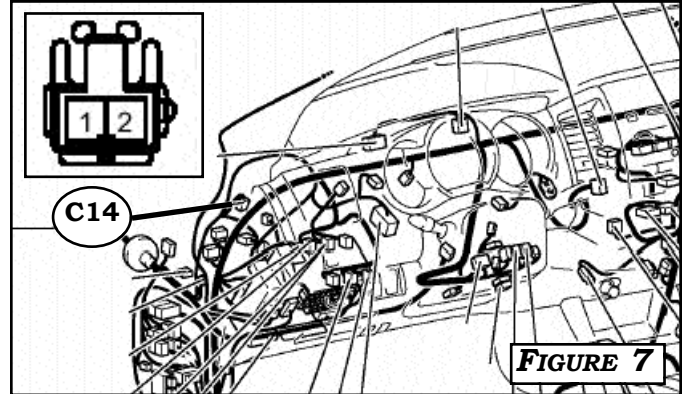

FIGURE 7
6) FOR MANUAL TRANSMISSION TACOMA ONLY: LOCATE CONNECTOR **C14** ABOVE CLUTCH PEDAL, **FIGURE 7**, AND ATTACH **RED** T-TAPS TO THE **Lt. BLUE** AND **Lt. GREEN** WIRES. CONNECT MALE TERMINALS TO **VIOLET** WIRES OF CLUTCH HARNESS AND MAKE CONNECTION WITH THE T-TAPS PREVIOUSLY INSTALLED.